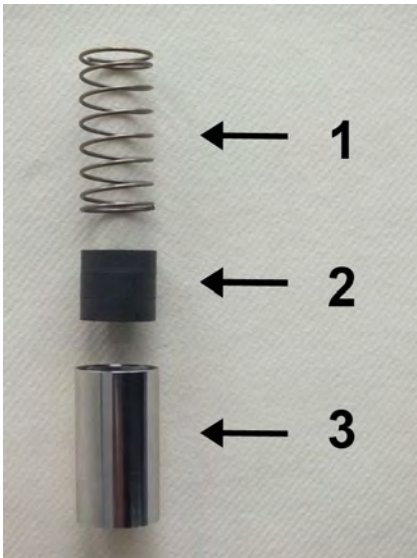

Fig. 41: Spring, magnets and float
7. The inner parts of the flow monitor consist of the spring (Fig. 41/1), magnets (Fig. 41/2) and float (Fig. 41/3).